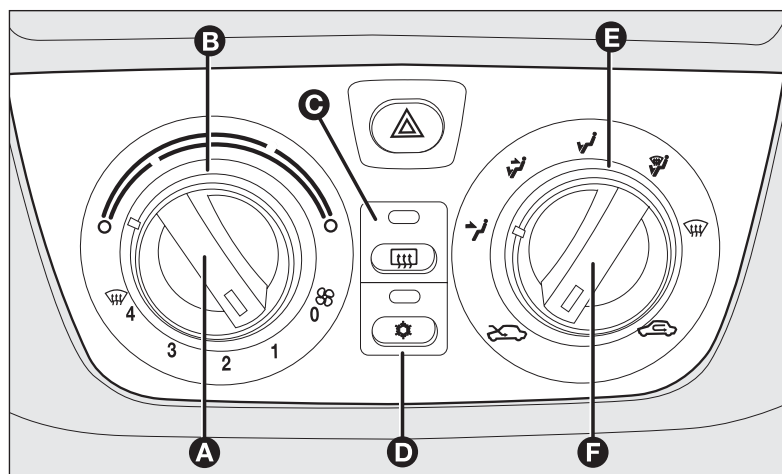

fig. 61
CONTROLS fig. 61
The ring **E-fig. 61** is used to make fresh air reach the entire passenger compartment. There are five selections:
Turn the ring **B-fig. 61** (indicator pointing to the red sector) rightwards to turn the temperature up or leftwards to turn it down;
- ☐ turn the ring **B-fig. 61** to the blue sector;
Position the knob **F-fig. 61** to .
- ☐ turn the ring **B-fig. 61** to the red sector;
- ☐ stop internal air recirculation by turning knob **F-fig. 61** to .
Press button **C**-fig. 61 to activate the function. The LED in the button will light up when the function is on.
- ☐ turn the ring **B**-fig. 61 to the blue sector to select the temperature;
- ☐ stop internal air recirculation by turning knob **F**-fig. 61 to .